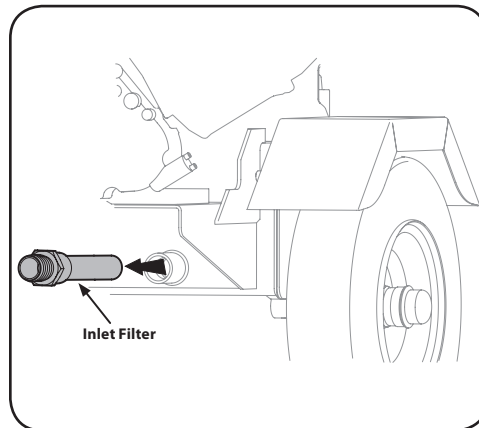

Figure 4-3
5. Carefully un-thread the inlet filter and clean it with penetrating oil. See Figure 4-3.